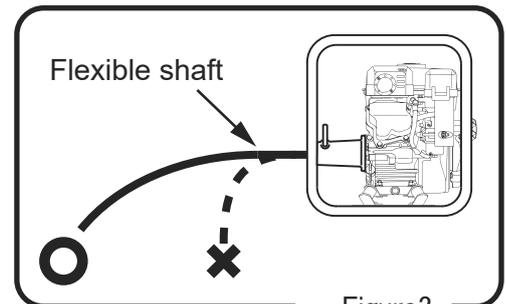

Figure3
- Flexible shaft set should not be bent less than 750 mm in radius at operation. (Figure 3)